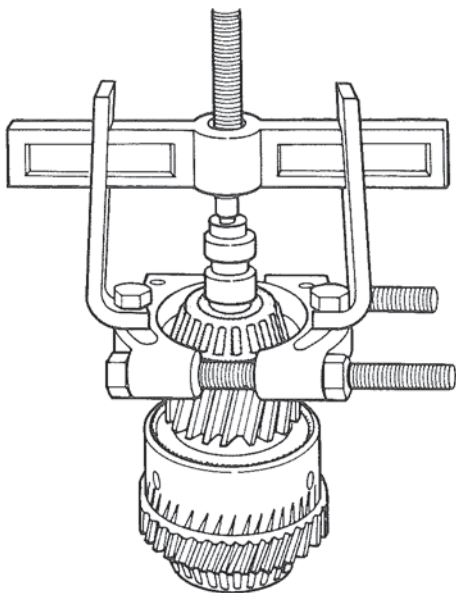

Figure 23. Pulling Rear Tapered Roller Bearing.
1. General. Place the reverse clutch shaft on the bench so the rear section faces up. Remove the two piston type hook end oil seal rings. Attach a bearing puller and remove the rear tapered roller bearing cone. Figure 23.